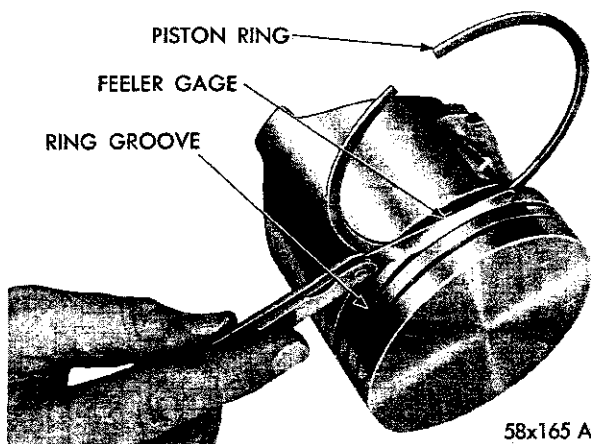

Fig. 38—Measuring the Piston Ring Clearance
(1) Measure the piston ring gap about two (2) inches from bottom of cylinder bore in which it is to be fitted. (An inverted piston can be used to push the rings down to insure positioning rings squarely in the cylinder wall before measuring.)
(2) Insert the feeler stock in the gap. The ring gap should be between .013 to .032 inch for the compression rings and .015 to .062 inch for the oil ring steel rails in standard size bores. Maximum gap on .005 inch O/S bores should be .040 inch for compression rings and .070 inch for the oil ring steel rails.
(3) Measure the side clearance between the piston ring and the ring groove. (Fig. 38) The clearance should be .0015 to .003 inches for the top compression ring and the intermediate ring, and .009 inch for the oil control ring, for new service rings.
(4) Install the oil ring in the lower ring groove using the instructions in the ring package.
(5) Install the compression rings in the middle and top grooves, so that the side marked "TOP" is up.
(6) Use ring installer Tool C-3628 for the 361 cubic inch engine, Tool C-3673 for the 383 cubic inch engine, and Tool C-3671 for the 413 cubic inch engines.